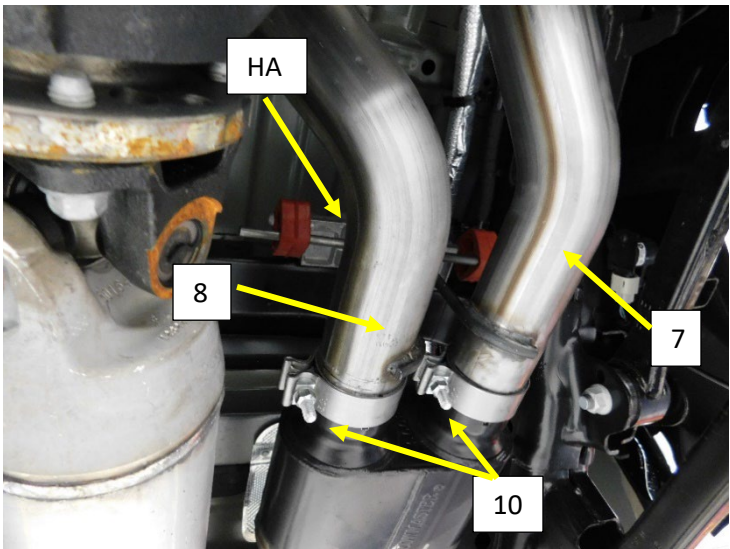

Figure.11
12. Install a 3" band clamp (10) on to each of the Muffler outlet pipes. **Fig.11**
13. Install the OEM muffler hanger assembly (HA) on to the crossmember at the rear of the muffler using the original 13mm nuts removed previously. **Fig.11**
15. Install the tail pipe into the muffler and install the hanger rod through the isolator. **Fig.11**